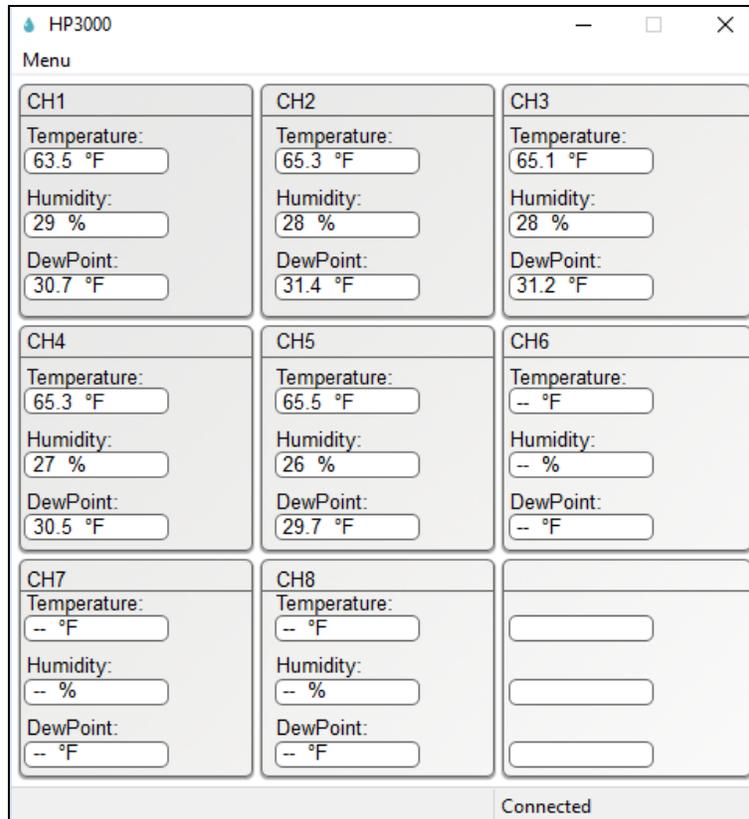

Figure 25
3. Run the program. Reference Figure 25. The main display screen will display “Connected” if properly communicating through the USB port.